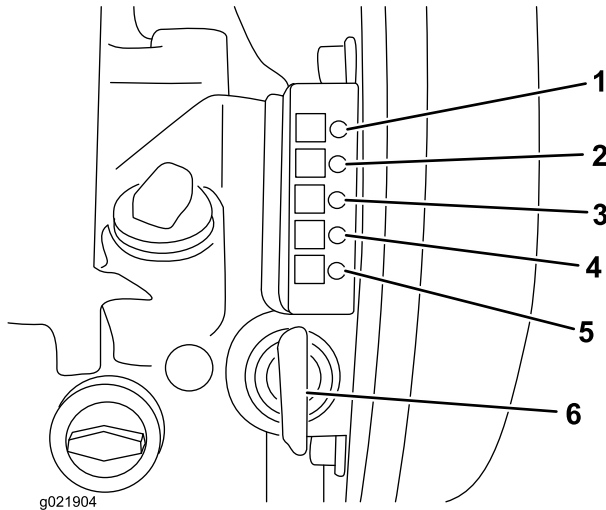

Figure 19
2. Rotate the ignition switch to the Run position (Figure 19); refer to Electric-start Switch (page 11).